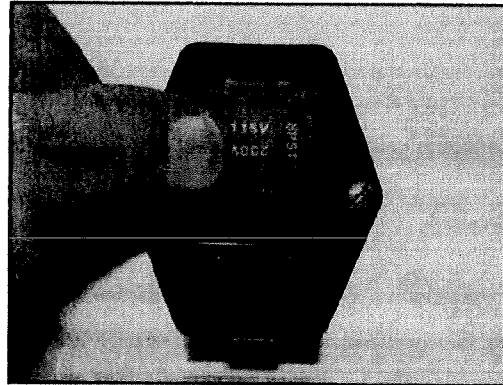

Figure 5.5
- Gently push fuse holder back into place on the front of the Power Control Box, ensuring that the voltage mark is on top (**Figure 5.5**). The holder will snap into place.